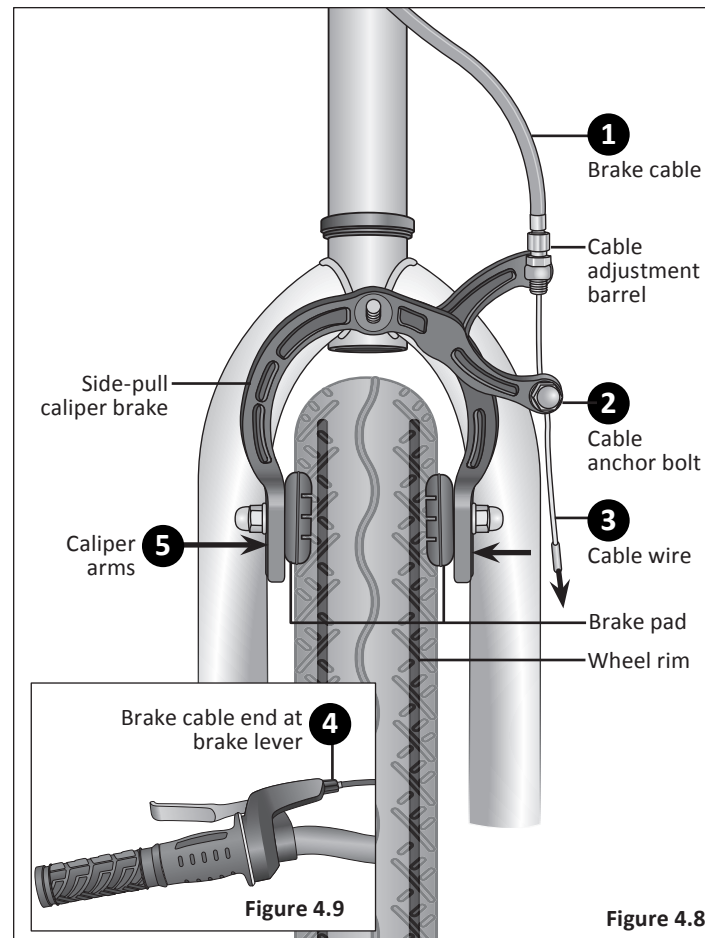

Figure 4.8
- ➊ If the brake cable is disconnected at the caliper, thread the brake wire through the adjustment barrel. **Figure 4.8**